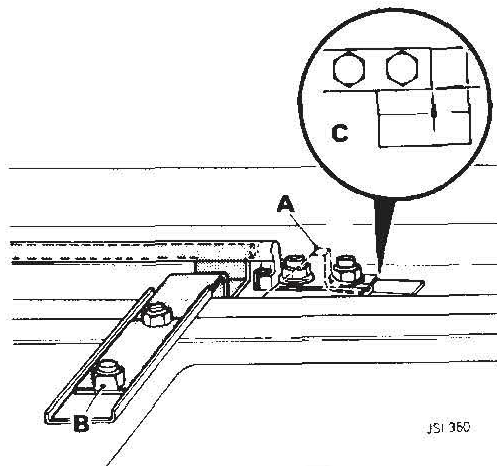

Fig. 5
6. Remove the black plastic lifting block, A Fig. 5.
7. Bend back the lock tabs, B Fig. 5, and remove the two nuts, lockplates, spring plates and rack mounting plate.
8. Mark the position of the rack stop, C Fig. 5. Remove the two nuts securing the rack stop and remove the stop from the rack tube.